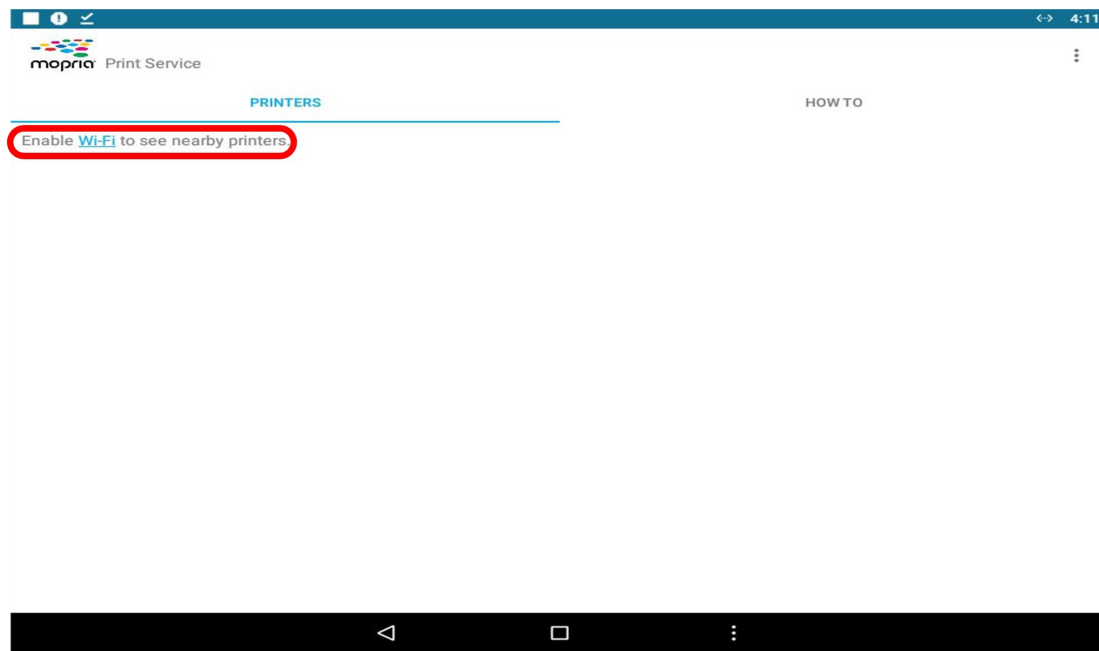

Figure 8
4、 After entering the printing software interface, click "**Enable Wi-Fi to see nearby printers**" to connect the printer's Wi-Fi, as shown in Figure 8. The Wi-Fi connection is successful, as shown in Figure 9.